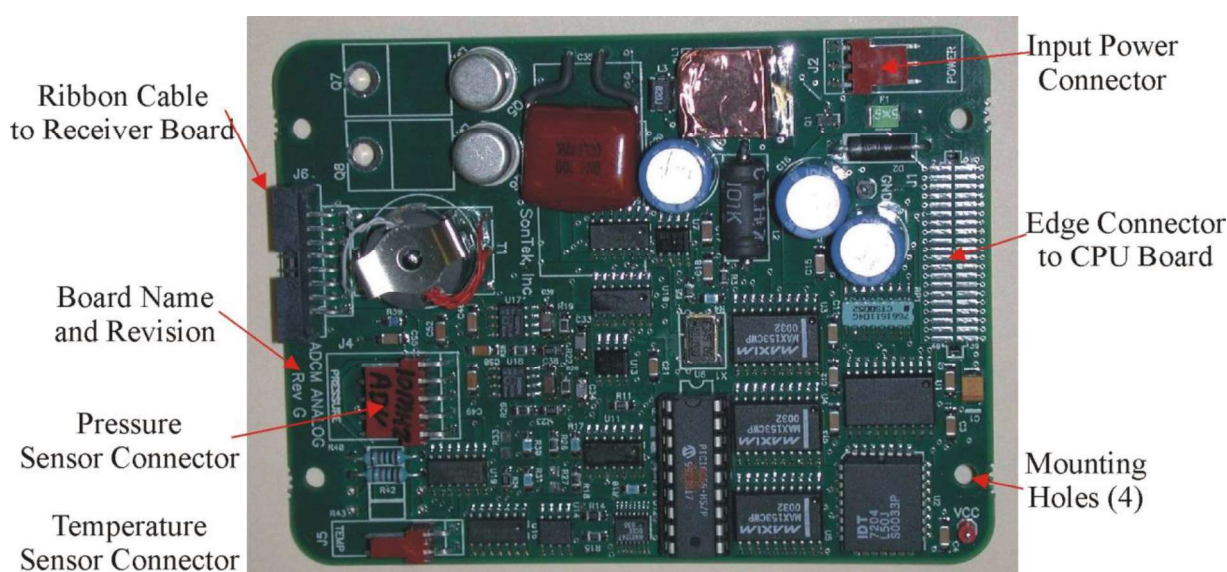

Figure 7-12. Argonaut-SL Analog Board
Figure 7-12 shows the layout of the Analog board.
- A 40-pin edge connector mates to the Analog board (Figure 7-12).
- The CPU board includes four (4) holes for mounting, which match the mounting holes on the Analog board and are used with a set of #4-40 screws and standoffs.